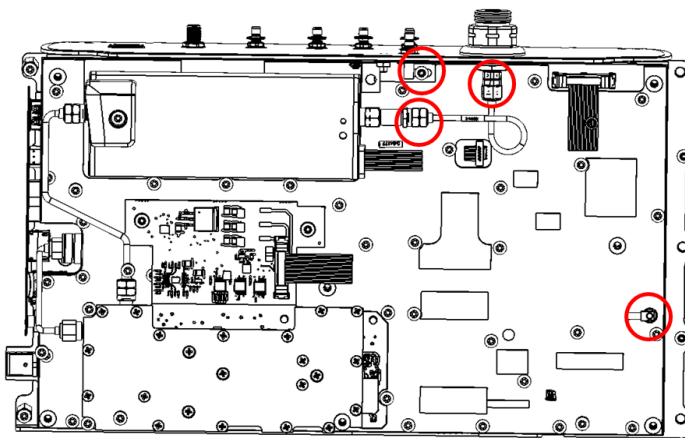

**Figure 5-11.** Top Panel Removal - Step B
8. Remove the semi-rigid cable connecting the RF In port to the step Attenuator as shown in Figure 5-11.